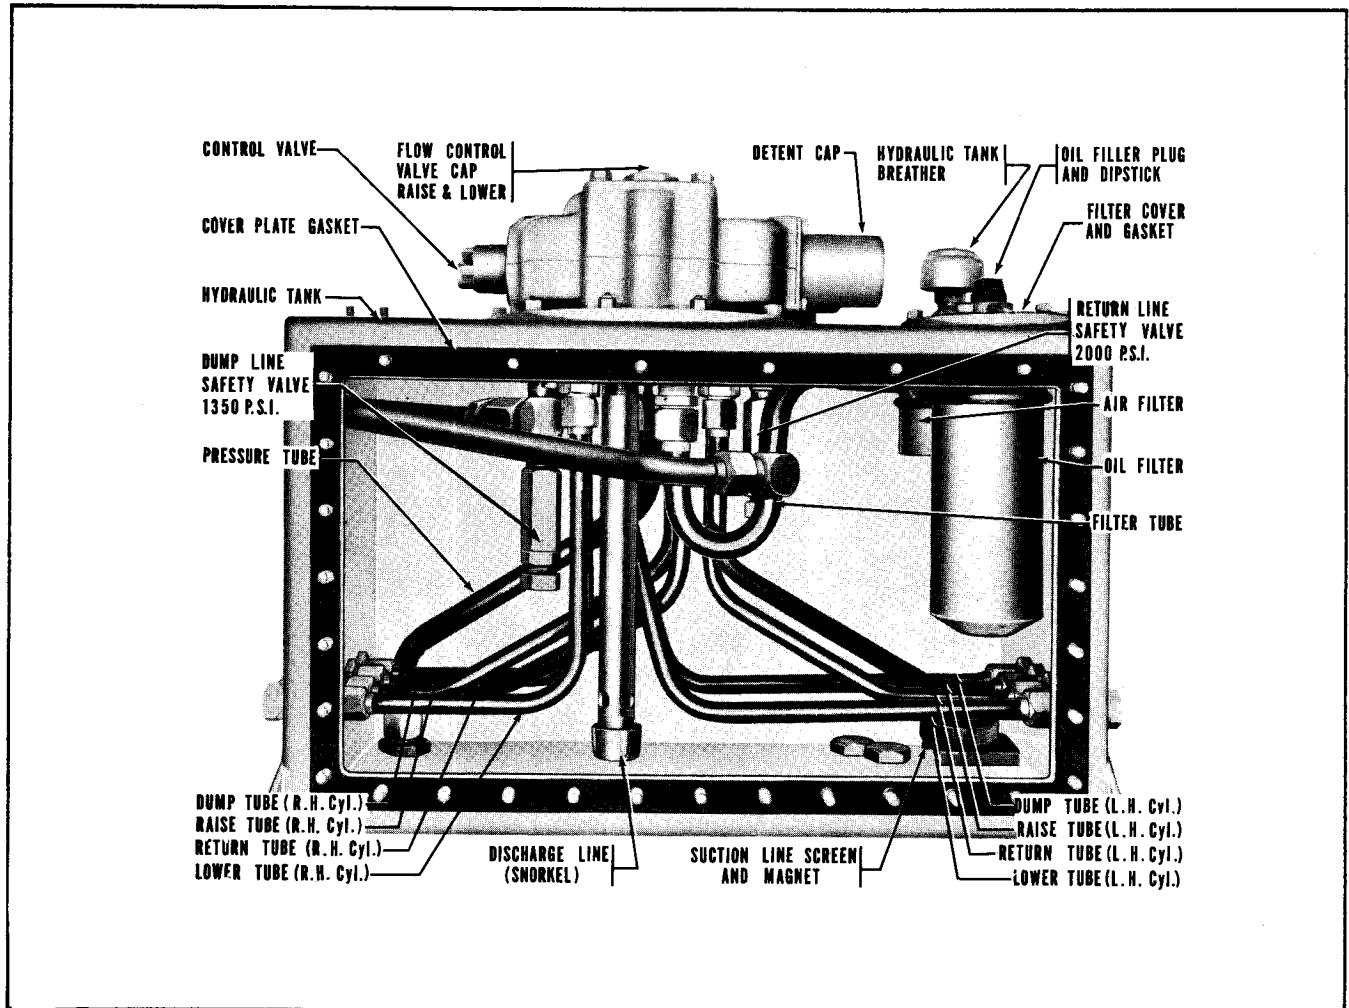

FIG. 6 – HYDRAULIC TANK
The dump line safety valve and the return line safety valve, located inside of the hydraulic tank (Fig. 6), are properly adjusted at the factory and require no further adjustment in the field.
A check valve, located inside the hydraulic tank (Fig. 6) does not need adjustment. The purpose of this valve is to eliminate the void which occurs in the tail end of the dump cylinders. See page 14 for full details.
The oil filter, located inside of the hydraulic tank, as shown in Fig. 6, has a micronic element which should be replaced after every 100 hours of operation, or more often if conditions warrant. When the oil is at operating temperature, all oil is 100% filtered. Refer to Fig. 6 and replace the oil filter element as follows:
The tank breather (Fig. 6) should be serviced after every 10 hours of operation, or more often if conditions warrant. The breather element should be replaced after every 100 hours of operation. Clean the breather element as follows:
The element of the air filter, located inside the hydraulic tank as shown in Fig. 6, should be replaced after every 100 hours of operation, or more often when operating in extremely dusty conditions. Replace the filter element as follows:
It is important that the suction line screen and magnet (Fig. 6) be cleaned daily during the first week of operation or until the amount of foreign material collected daily has practically disappeared. Thereafter, the screen and magnet should be cleaned after every 100 hours of operation. These parts are accessible for cleaning by the removal of the air filter cover, filter element, and the air filter case and reaching down into the tank.
2. Reaching down into the hydraulic tank, push down on the bail to loosen the suction line screen baffle cup (Fig. 6) and remove the baffle cup and the suction screen. Remove the magnet (ring) from the suction line.
An oil level dipstick, attached to the oil filler plug (Fig. 6), is provided in the left front corner on top of the hydraulic tank. The oil level should be checked after every 10 hours of operation by removing the dipstick and oil filler plug. NOTE: *Make certain the loader is level before checking oil level. With the engine running at full throttle, raise the boom to radiator height. Actuate the bucket through its full travel several times to make certain the dump cylinders are full of oil, then fully retract the dump cylinders. Move the boom control lever to the LOWER position and lower the bucket to ground level, then return the control lever to its NEUTRAL (HOLD) position. Be sure the engine is running at full throttle when performing these operations. Stop the engine and check the oil level as follows:*